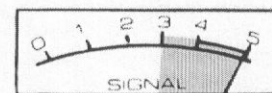

Fig. 11
3. Turn the tuning knob to select a station. The best reception is obtained when the signal meter pointer deflects to the extreme right (see Fig. 11).